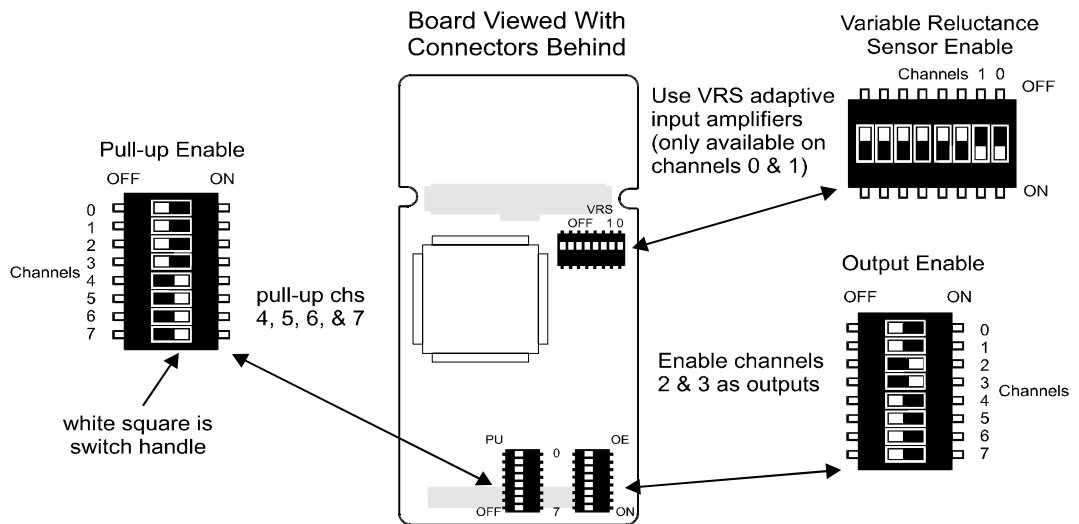

Figure 2. Switch Location and Example Settings
Locating switches Figure 2 shows the location of each channel's configuration switches.
Refer to Figure 2 for the location of the eight Output Enable (OE) switches. Move the channel's switch handle to the ON position for output, and to the OFF position for input.
Refer to Figure 2 for the location of the eight Pull-up Enable (PU) switches. Move the switch handle to the ON position to connect the pull-up resistor (connected from channel terminal to an internal +5V), and to the OFF position to disconnect the pull-up resistor (high impedance input/open drain output).